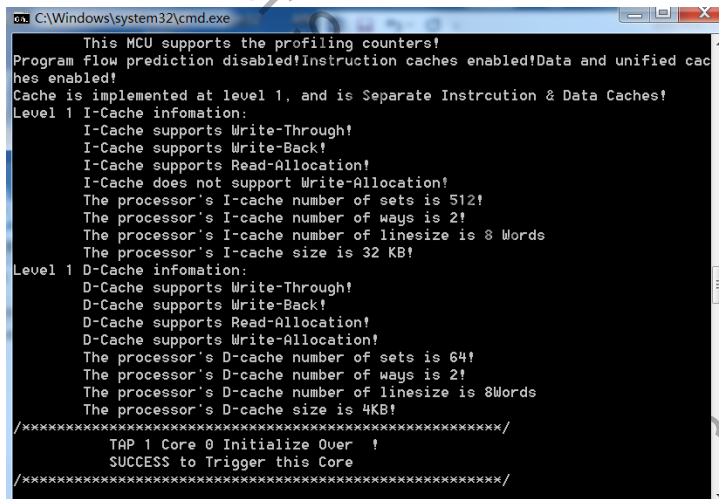

Fig 6-17 RLX Probe window
- c) Open RLX Probe in **project\realtek_amebaD_va0_example\EWARM-RELEASE\probe\cm4\cm4_RTL_Probe**, as Fig 6-17 shows.